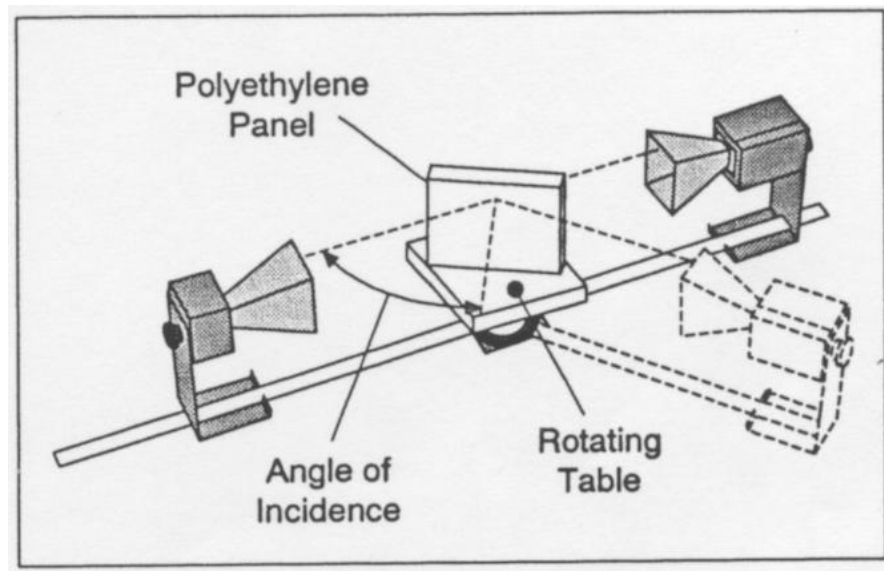

Figure 5: Set-up for the measurement of Brewster's angle
6. Set up the goniometer with the receiver unit on the rotating arm. Place the rotating table on the degree plate. Place the polyethylene panel on the rotating table. See Figure 5. Set the angle of incidence to 20 degrees and observe at the same angle (i.e. 140 degrees from the straight through position). Ensure that both the transmitter and receiver units are set for horizontal polarisation. Set the receiver controls for a half full scale reading. Record the meter reading. Carefully rotate both the receiver and transmitter units for vertical polarisation.